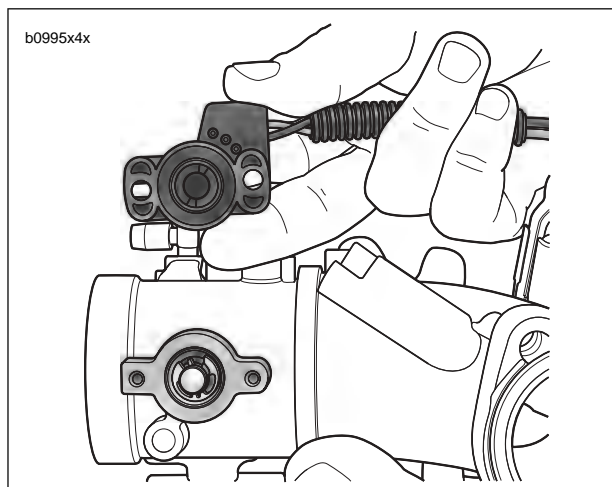

Figure 4-192. Throttle Position Sensor
3. See Figure 4-192. Remove two screws and washers to detach TP sensor.
1. See Figure 4-192. Apply LOCTITE THREADLOCKER 222 (purple) to threads of fasteners.